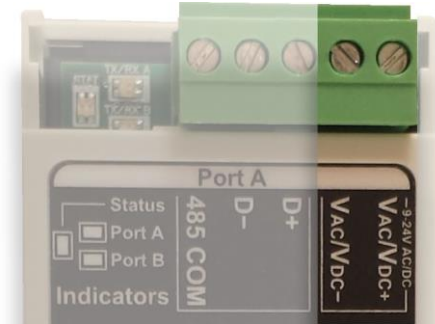

Figure 1: Port A Terminal Block Power Supply Connections
- The power supply must be connected to the gateway's "Port A" terminal block on the terminals labeled V_{AC}/V_{DC+} and V_{AC}/V_{DC-} as highlighted in Figure 1.